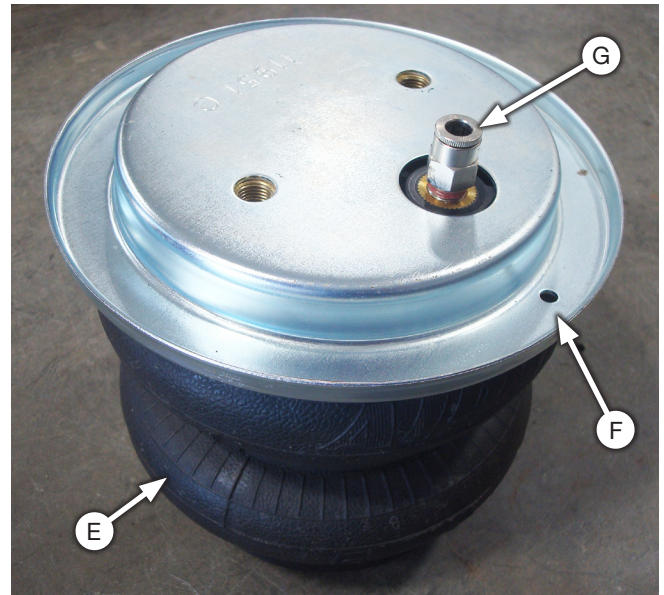

Fig. 8
1. Set a roll plate (F) on top of the air spring (E) and install the straight fitting (G) finger-tight (Fig. 8). Torque the fitting one and a half turns.